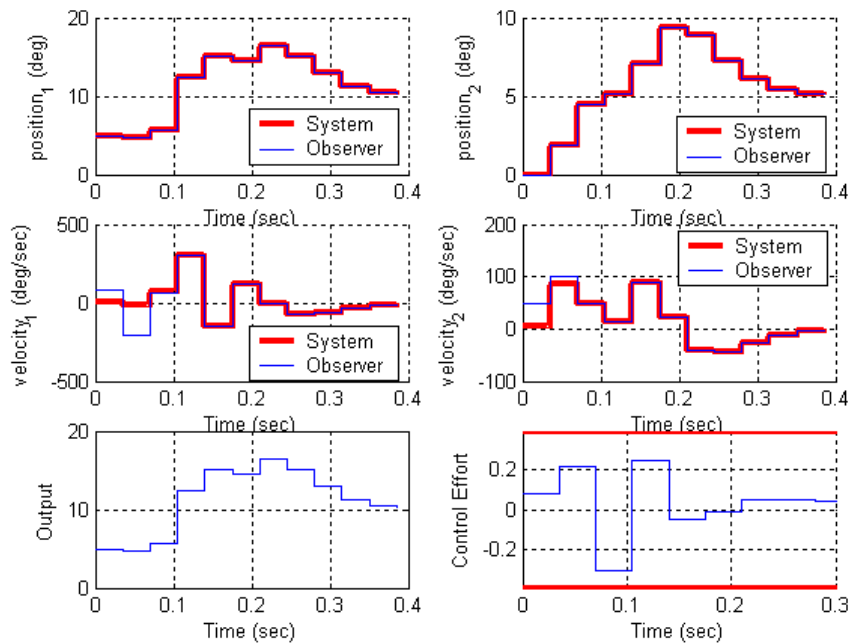

Figure 10. Results for problem 3e.
e) Same conditions as **d**, but the sampling interval is now 0.035. For a 10 degree step input you should get the graph shown in Figure 10. Turn in your plot
e) Same conditions as **d**, but the sampling interval is now 0.04. For a 10 degree step input you should get the graph shown in Figure 10. Turn in your plot